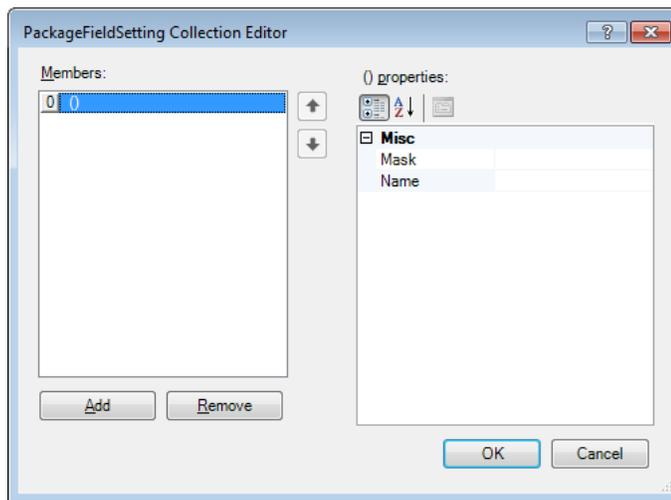

Figure 22: *PackageFieldSetting Collection Editor* Window
- 2) Click **Add** to insert a new field to the package (*Figure 22*).